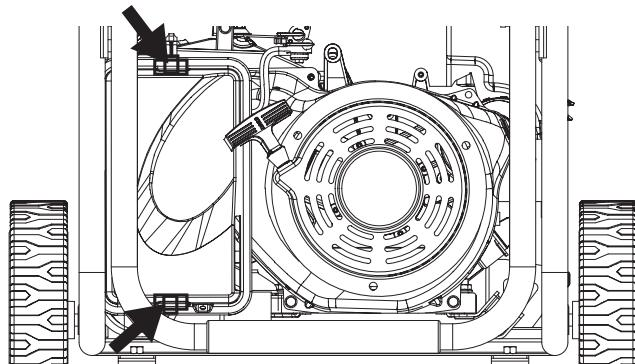

Figure 23 - Clips on air filter
3. Unclip the clips on the top and bottom of the air filter cover (Figure 23).